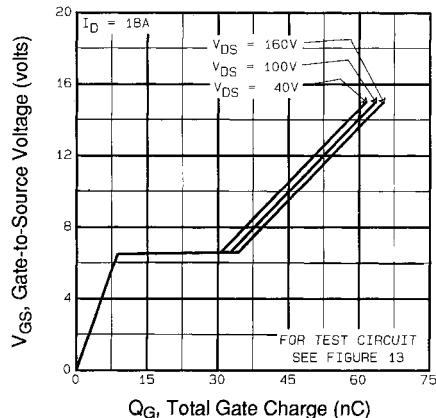

Fig 6. Typical Gate Charge Vs.
| Q_{gd} | Gate-to-Drain ("Miller") Charge | — | — | 39 | | $V_{\text{GS}}=10\text{V}$ See Fig. 6 and 13 ④ |